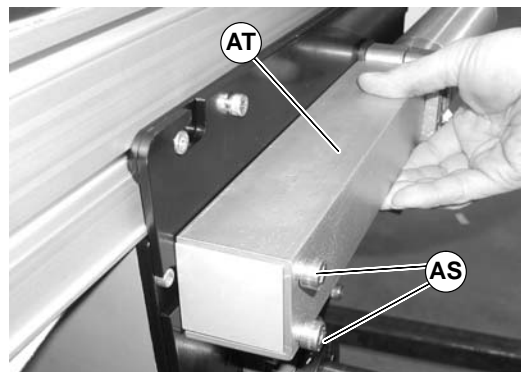

Figure 22
5. Remove screws (AS of Figure 22) and tensioning guards (AT) from both sides of center drive.